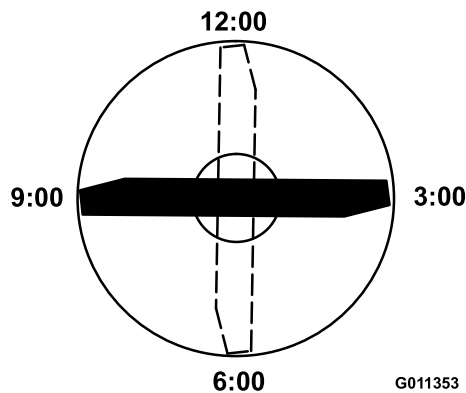

Figure 70
3. Position the cutting edge of the marked end of the blade at the 12 o'clock position (straight ahead in the direction of mowing) and measure the height from the table to the cutting edge of the blade (Figure 70).
4. Rotate the marked end of the blade to the 3 o'clock and 9 o'clock positions and measure the heights (Figure 70).